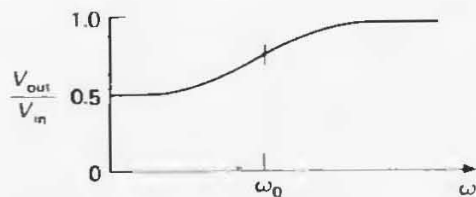

Figure 1.108
(5) How would you make a filter with R s and C s to give the response shown in Figure 1.108?